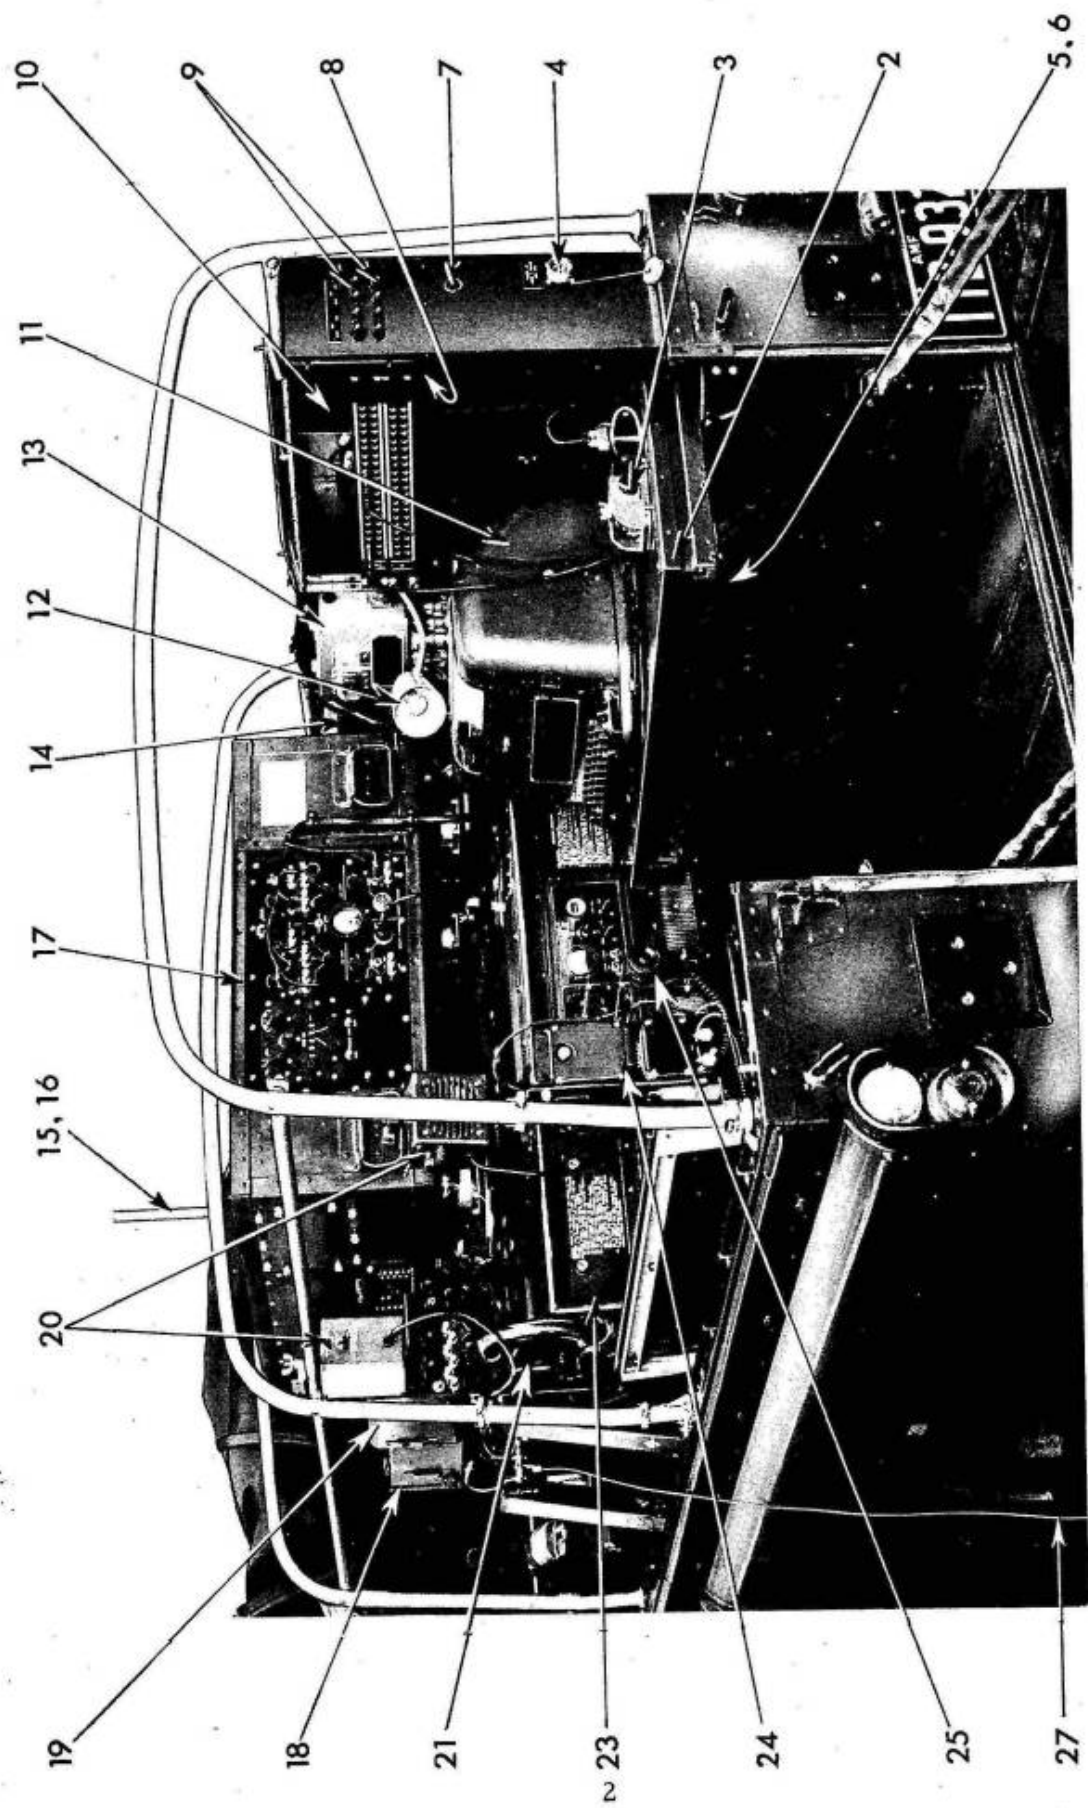

FIG 2 - LEFT-REAR VIEW OF STATION
KEY TO FIGS 2, 3, 4, AND 5
9. Two monitor speakers (Fig 2) are mounted near the radio sets, one for each side band, and two Telephone Sets K (Fig 2) are supplied for termination of incoming telephone lines.